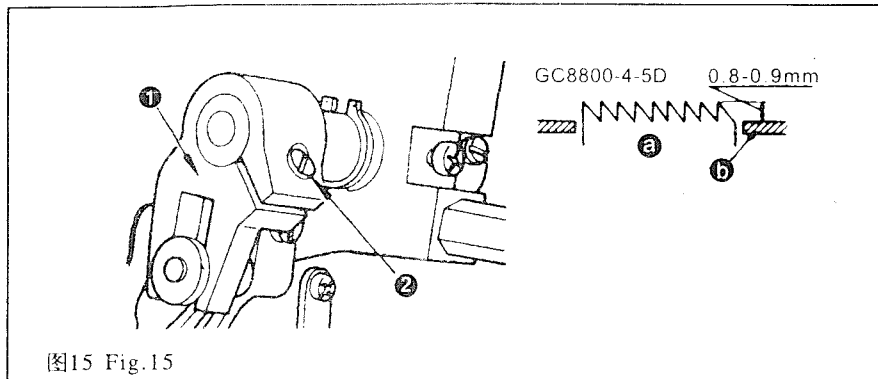

图15 Fig.15
- 1) Loosen nut ②, As you turn presser spring regulator ① clockwise (in direction A), the presser foot pressure will be increased.
- 3) After adjustment, tighten nut ②.
11. 送料牙的高度(图15)
11. HEIGHT OF THE FEED DOG (Fig. 15)